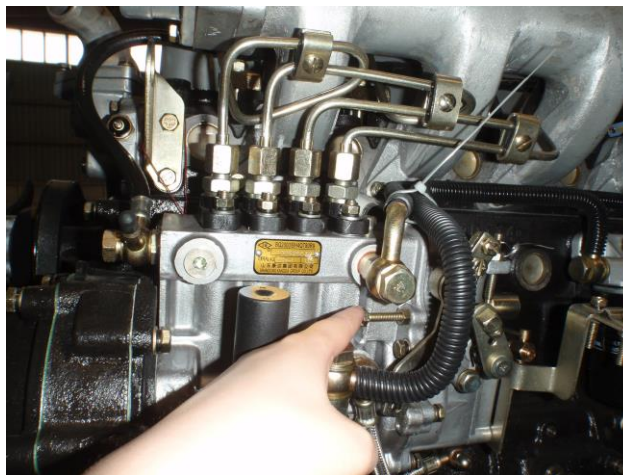

Fig 1-2
(2) Examining whether or not air leak exists, by making use of adjusting rack to adjust the negative pressure of oil injection pump in reference to Fig 1-2.
(3) Adjusting the limit of smoke by making use of adjusting screw for limit of smoke, while the operators shall pay attention that please never adjust it for imported engines, when they are basically under normal operating conditions.